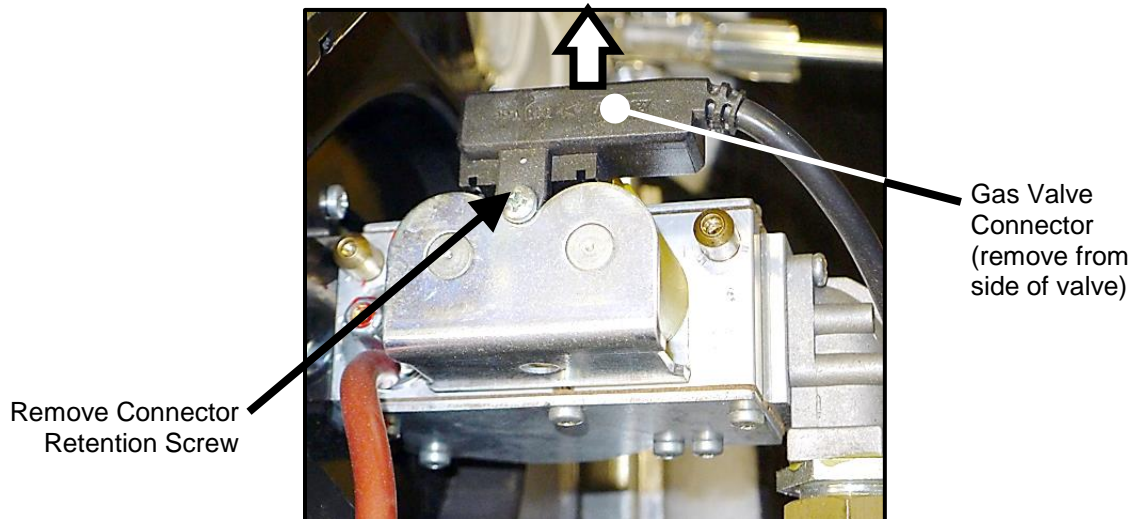

Figure 8-11: Removing Gas Valve Connector from All Gas Valves (Step 7)
7. On each gas valve, unscrew the Gas Valve Connector with a Phillips head screwdriver. Remove connector (Figure 8-11) from the side of each gas valve.